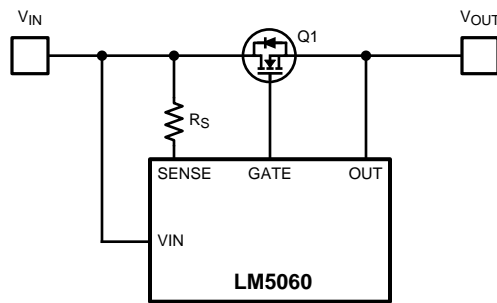

Figure 27. Setting the V_{DS} Threshold
The LM5060 monitors the V_{DS} voltage of the external N-Channel MOSFET. The drain to source voltage threshold (V_{DSTH}), which is set with the resistor R_S , is shown in Figure 27;
- $R_{DS(ON)}$ is the resistive drop of the pass element Q1 in Figure 27
- (2)